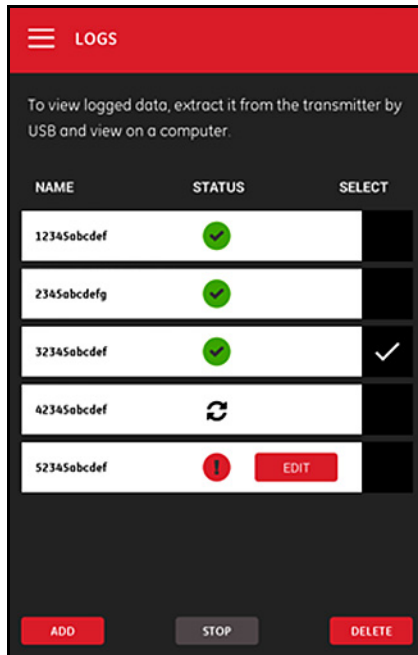

Figure 100: LOGS Main Menu
In the **LOGS** main menu (see *Figure 100* below), all existing logs and their current status are listed. Each listed log may be edited, stopped or deleted, depending on their current status.
1. On the **LOGS** main menu (see *Figure 100 on page 104*), click in the **SELECT** column to the right of the log you wish to delete.
1. On the **LOGS** main menu (see *Figure 100 on page 104*), click in the **SELECT** column to the right of the log you wish to stop.
1. On the **LOGS** main menu (see *Figure 100 on page 104*), click in the **SELECT** column to the right of the log you wish to edit.